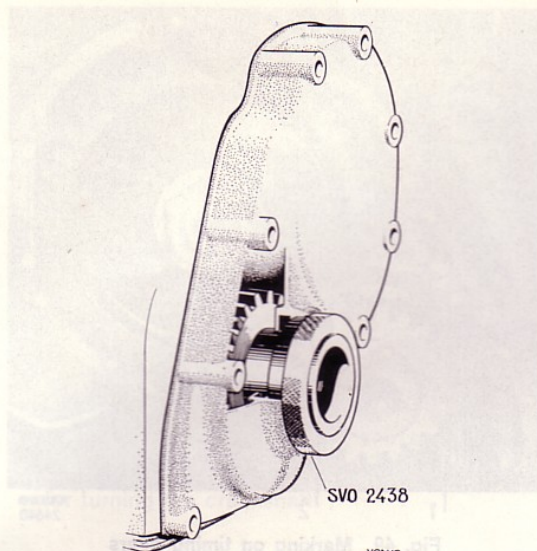

Fig 43 Centering the timing gear casing
6. Center the casing with sleeve SVO 2438, see Fig. 43. Turn the sleeve while tightening and adjust the position of the casing so that the sleeve is not jammed. Check after final tightening of the casing that the sleeve can be easily rotated without jamming.